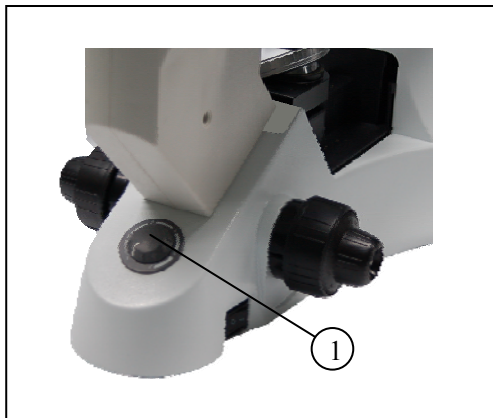

Figure 17
**4-1-2 Adjusting the brightness (fig.17)**